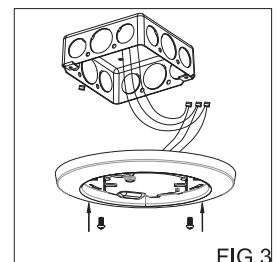

FIG.3
4. Connect the wires: Black to Black, White to White, Green to Green. Secure the connection with Wire Nuts. Tuck all the wires into the Outlet box. (FIG.3)
This type of installation represents a 6 inch barrel. (FIG.3)